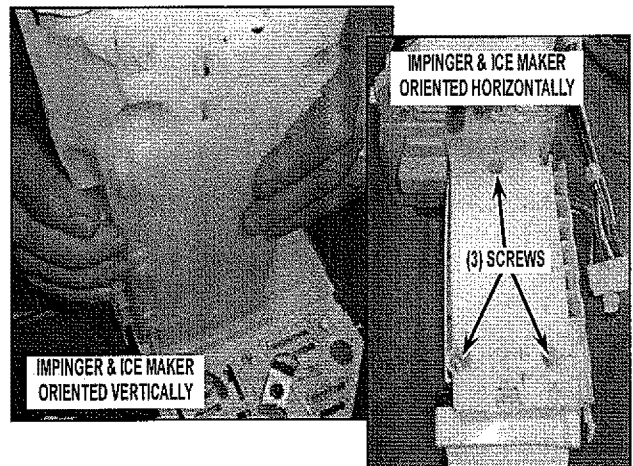

FIGURE 18
20. With auger head on flat surface, install new ice maker assembly onto top side of impinger. Squeeze impinger and ice maker assembly together aligning holes on bottom of impinger with mounting holes on bottom of ice maker assembly. Install 3 screws provided with kit. See *Figure 18*.